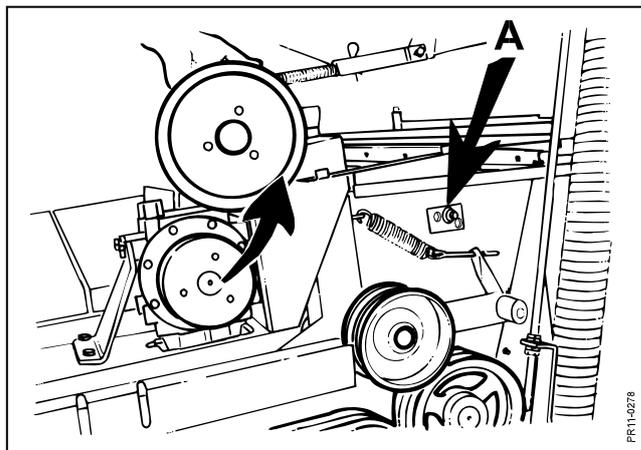

Fig. 3-20
**Fig. 3-20** When changing to **670 o/min.** the outer big pulley on the gear is removed. (The big pulley is mounted on top of the small one). The 3 supplied belts must be used.